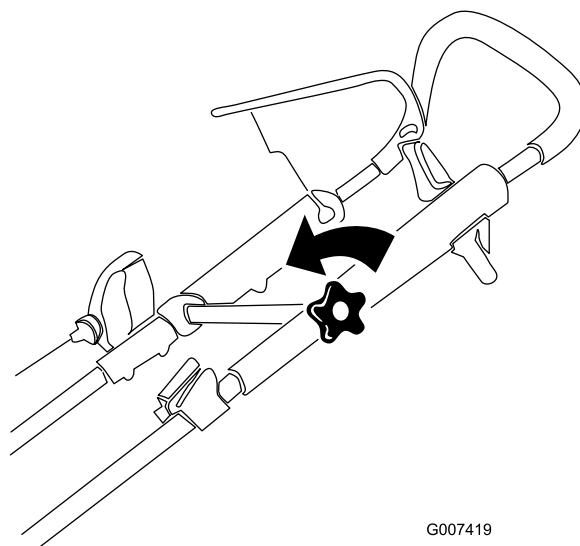

Figure 18
1. Loosen the upper-handle knob (Figure 18).